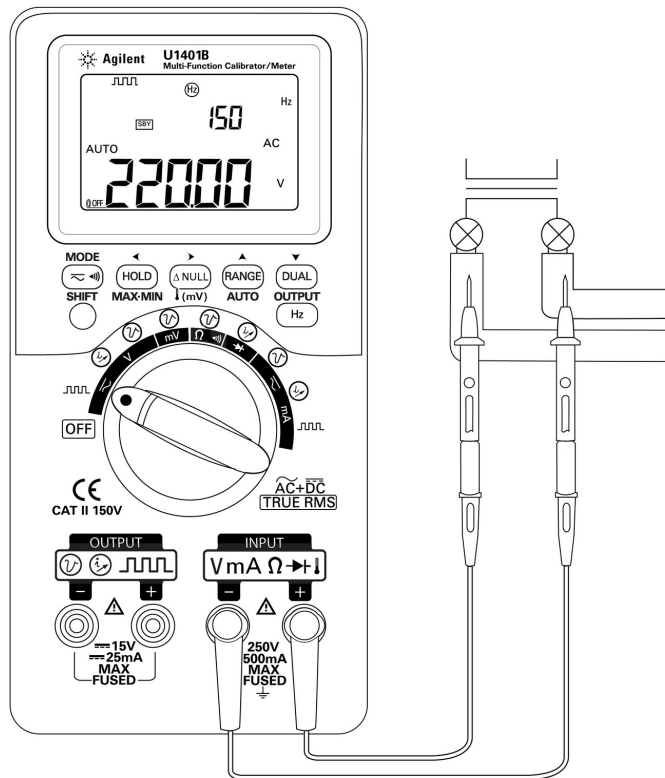

Figure 3-2 AC voltage measurement
- 3 Connect the red and black test leads to the positive and negative input terminals respectively (Figure 3-2).